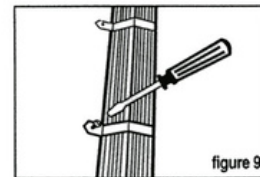

figure 9
Each downspout section is fastened securely against the wall with two Pipe Straps (11), attached to the wall with 2 nails or screws in each strap (figure 9).